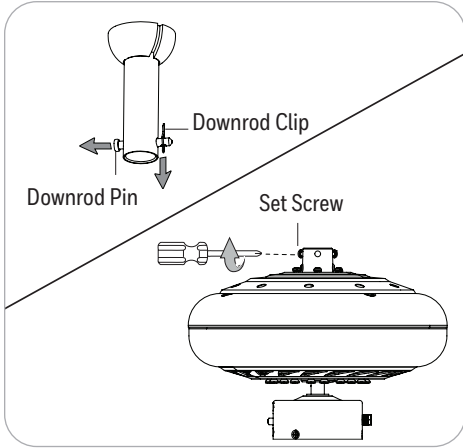

Figure 3.1
1. Remove the downrod clip and downrod pin from the downrod. Then, loosen but do not remove the two set screws at the top of the yoke (Figure 3.1).